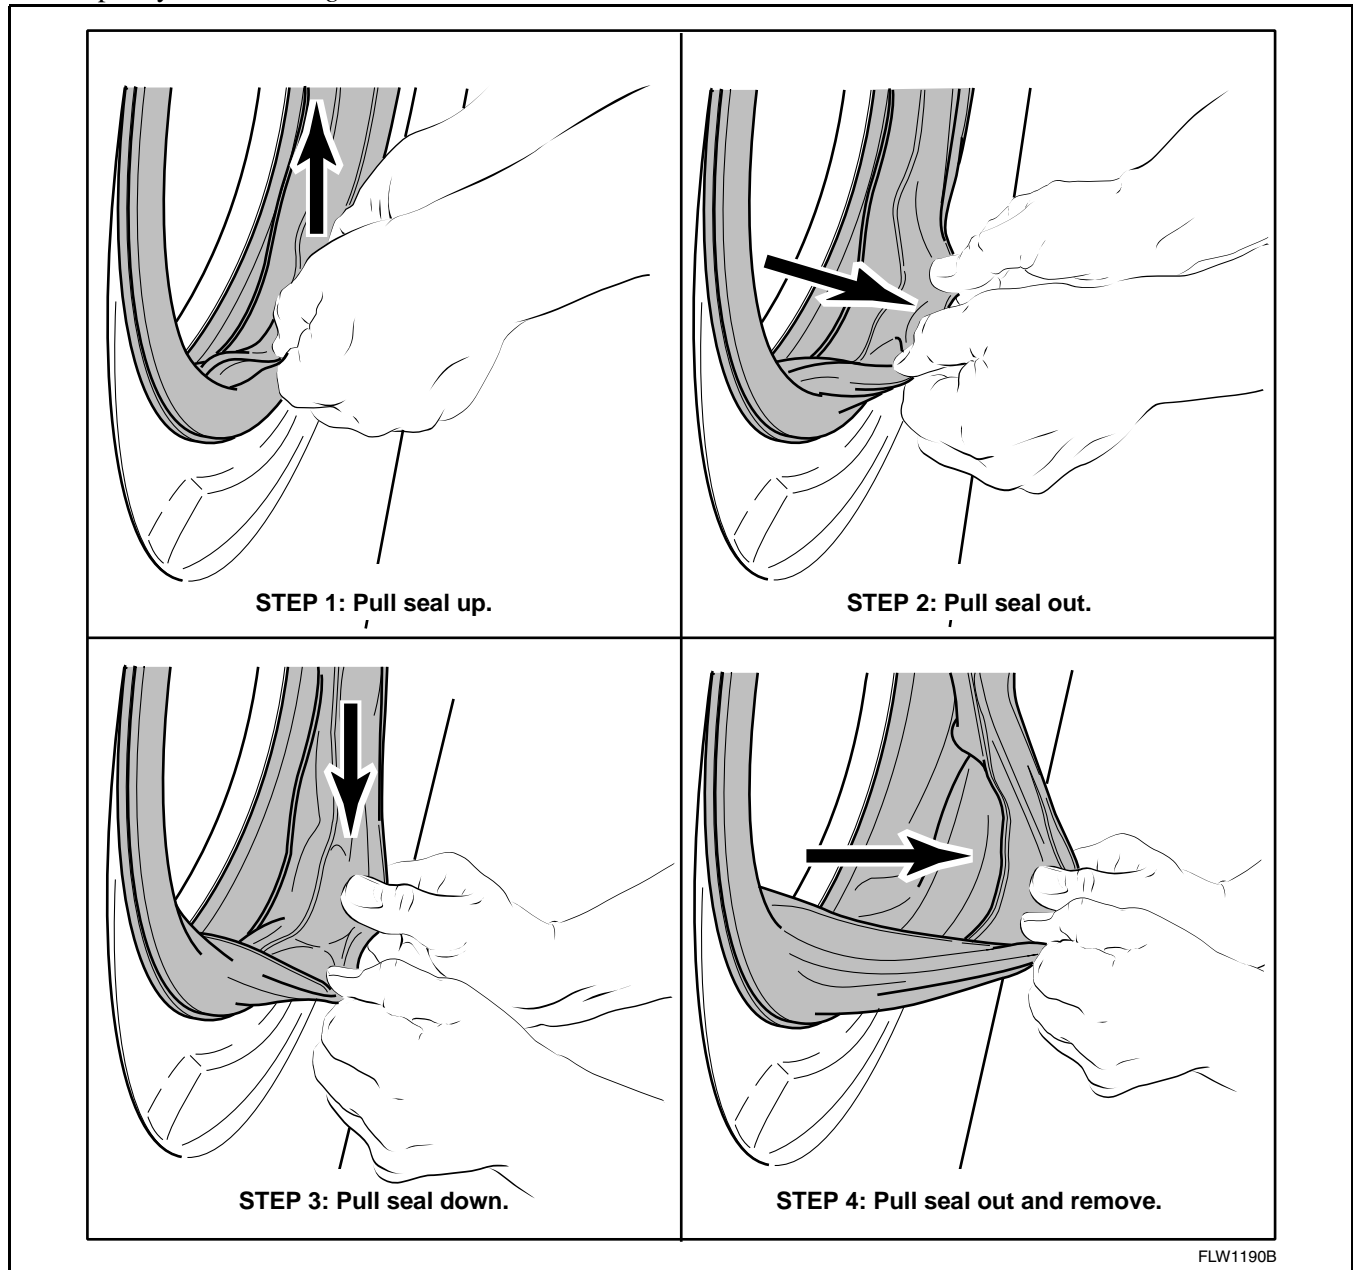

Figure 40
- (3) Grasp loading door seal lip. Refer to *Figure 40*, Step “1”.
- (4) Using a circular motion, pull seal up (*Figure 40*, Step “1”), out (*Figure 40*, Step “2”), and down (*Figure 40*, Step “3”).
- (5) When seal releases from lip of front panel, pull out and remove the seal. Refer to *Figure 40*, Step “4”.
- (4) Grasp loading door seal lip. Refer to *Figure 40*, Step “1”.
- (5) Using a circular motion, pull seal up (*Figure 40*, Step “1”), out (*Figure 40*, Step “2”), and down (*Figure 40*, Step “3”).
- (6) When seal releases from lip of front panel, pull out and remove the seal. Refer to *Figure 40*, Step “4”.
- f. Grasp loading door seal lip. Refer to *Figure 40*, Step “1”.
- g. Using a circular motion, pull seal up (*Figure 40*, Step “1”), out (*Figure 40*, Step “2”), and down (*Figure 40*, Step “3”).
- h. When seal releases from lip of front panel, pull out and remove the seal. Refer to *Figure 40*, Step “4”.